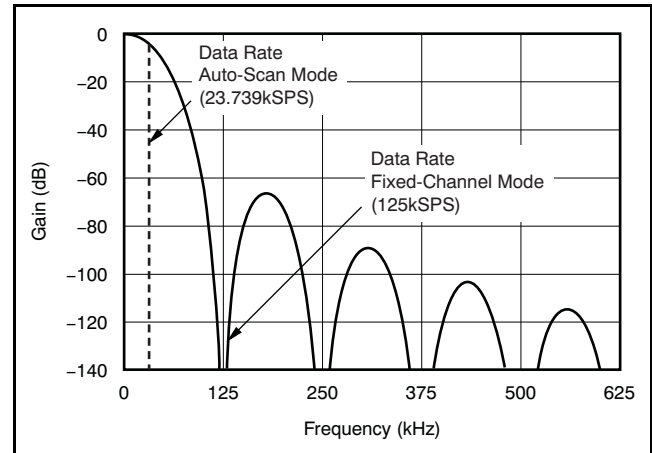
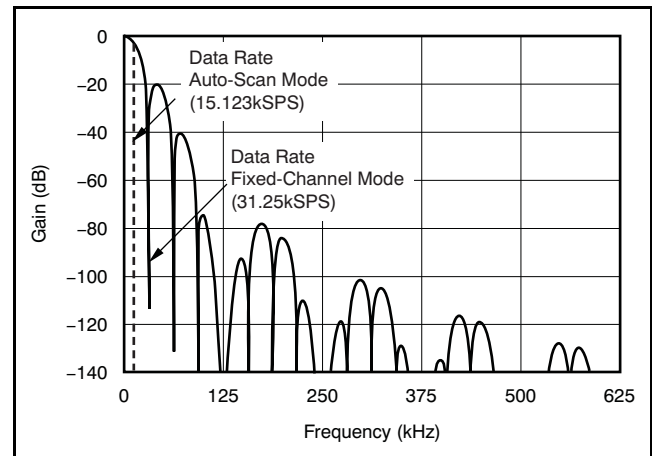

Figure 29. Frequency Response, DRATE[1:0] = 11
Figure 30. Frequency Response, DRATE[1:0] = 10
The low-pass filter has notches (or zeros) at the data output rate and multiples thereof. The sinc^5 part of the filter produces wide notches at $f_{CLK}/128$ and multiples thereof. At these frequencies, the filter has zero gain. Figure 29 shows the response with no post averaging. Note that in Auto-Scan mode, the data rate is reduced while retaining the same frequency response as in Fixed-Channel mode.
Figure 30 shows the response with averaging set to 4 (DRATE[1:0] = 10). 4-reading, post-averaging produces three equally-spaced notches between each main notch of the sinc^5 filter. The frequency response of DRATE[1:0] = 01 and 00 follows a similar pattern, but with 15 and 63 equally-spaced notches between the main sinc^5 notches, respectively.
(1) f_{CLK} = 16MHz, Chop = 0, and Delay = 0.
(2) Num_Ave is the number of averages performed by the digital filter second stage.
(3) In Auto-Scan mode, the data rate listed is for a single channel; the effective data rate for multiple channels (on a per-channel basis) is the value shown in Figure 29 and Figure 30 divided by the number of active channels in a scan loop.
Referring to Figure 29 and Figure 30, frequencies present on the analog input above the Nyquist rate (sample rate/2) are first attenuated by the digital filter and then aliased into the passband.